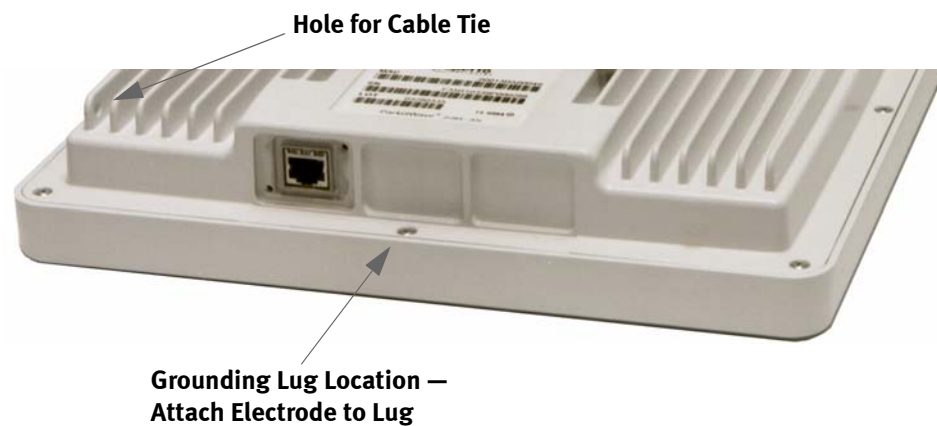

Figure 4-6 **Location of Grounding Lug on Outdoor Unit**
1. Locate the grounding lug on the ODU, as illustrated in *Figure 4-6*.
6. Dress the conductor using a cable tie through the hole illustrated in *Figure 4-6*, ensuring that the cable does not hang unsupported from the connector.